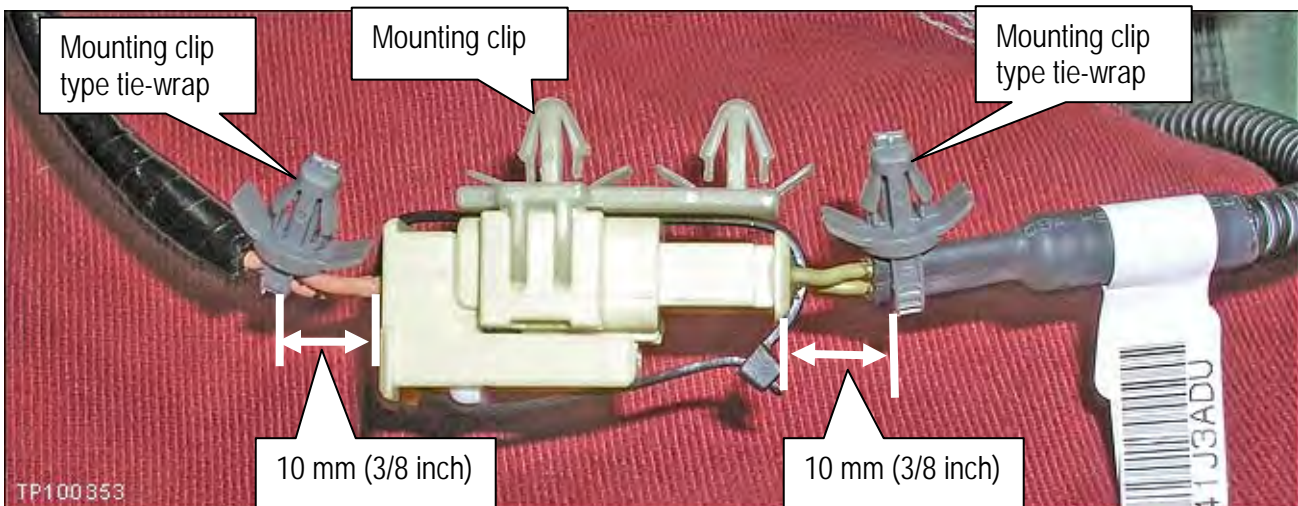

Figure 9a
11. Reinstall the connector mounting clip (see Figure 9a).
12. Install 2 "mounting clip type" tie-wraps as shown in Figure 9a.